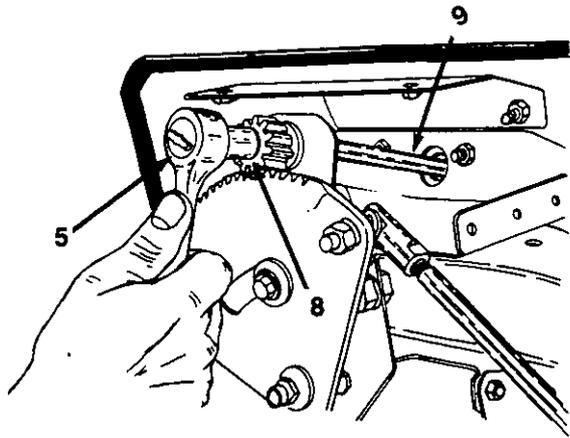

FIGURE 4.
5. Remove the hex center lock nut, flat washer and pinion gear on bottom end of steering shaft. See figure 4. A 1/2" wrench is required.